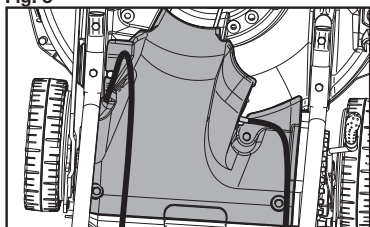

Fig. 6
5. Refit drive Belt Cover using 4 screws and washers. Fig 6.